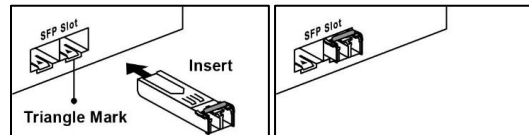
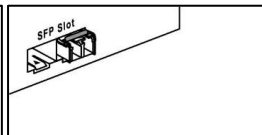

Figure 1
Figure 2
1. Insert the SFP transceiver module into the SFP slot as shown below in *Figure 1* (Please be noted that the triangle mark is at the bottom of the SFP slot). *Figure 2* shows the SFP transceiver module was inserted.